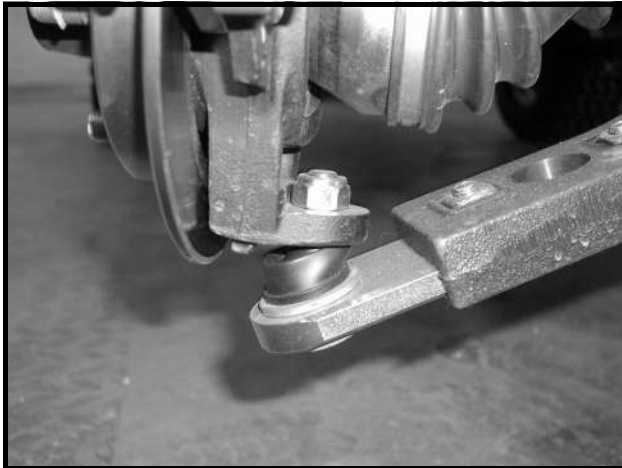

Figure 6-9 Lower Ball Joint and Upright
7. Remove the lower ball joint from the upright (**Figure 6-9, Page 6-11**).